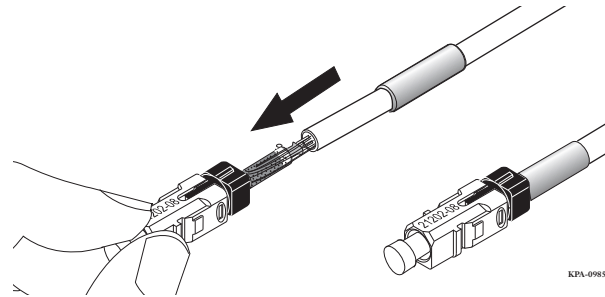

Figure 46 — Strain-relieve Jacketed Cable
- Step 3:** Flare the yarn around the connector (Figure 46). The ends of the yarn should just touch the back of the square cam. If the yarn is too long, trim it now.